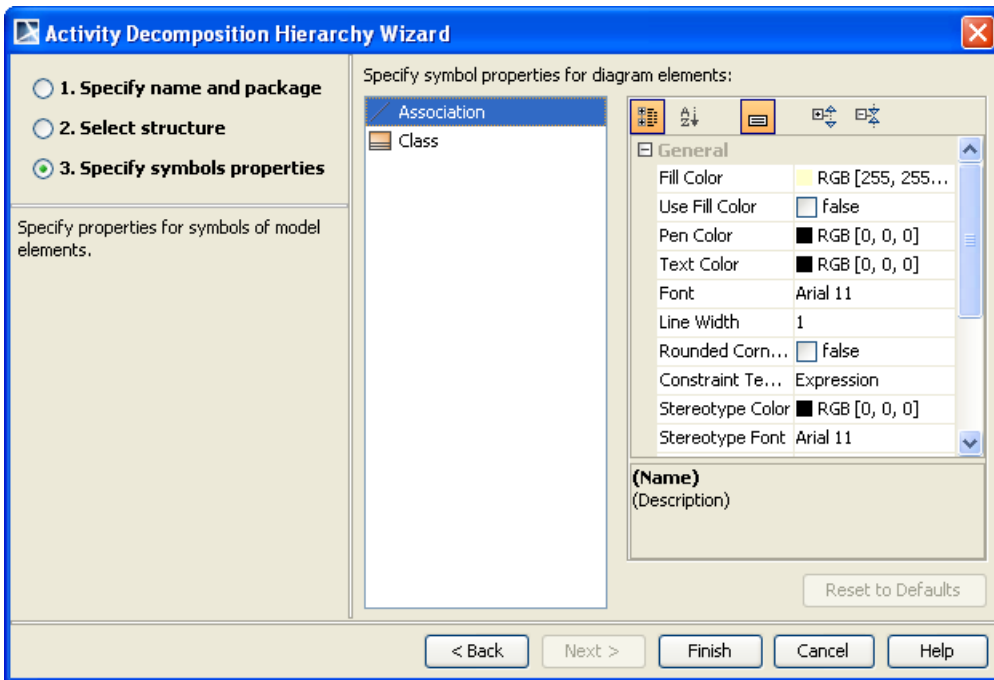

Figure 187 -- Activity Decomposition Hierarchy Wizard Dialog: Specify Symbols Properties
5. **Step 3 Specify symbols properties.** Customize the symbol properties of the diagram(s) to be created (Figure 187).